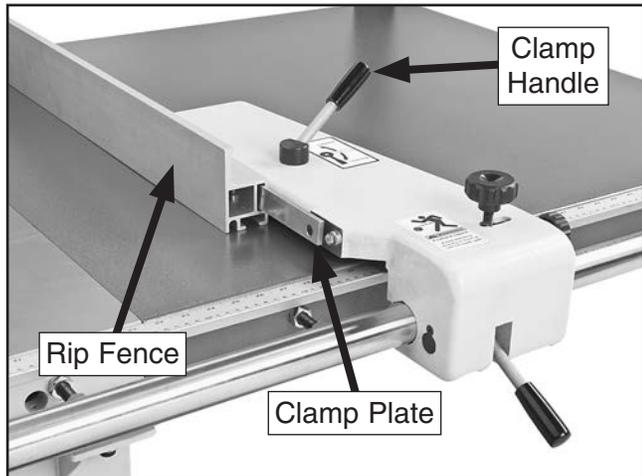

Figure 34. Installing the rip fence.
36. Loosen the fence clamp handle (see **Figure 34**), then slide the fence onto the T-slot plates and the clamp plate so that the tall side of the fence is facing the blade.